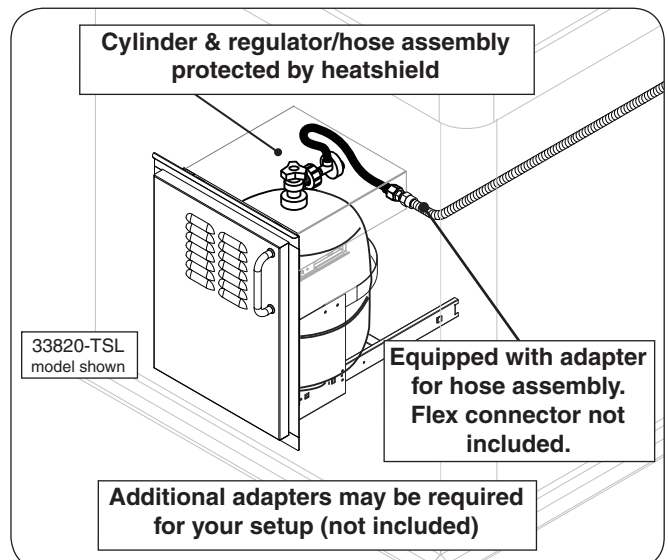

Fig. 9-3 Optional RHP door w/ tank tray
- **RHP offers propane tank door with tank tray models and a propane tank heatshield that rests directly on the tank to meet the cylinder install requirements. Propane tank door with tank tray shown in Fig. 9-3. Contact your dealer for ordering information.**